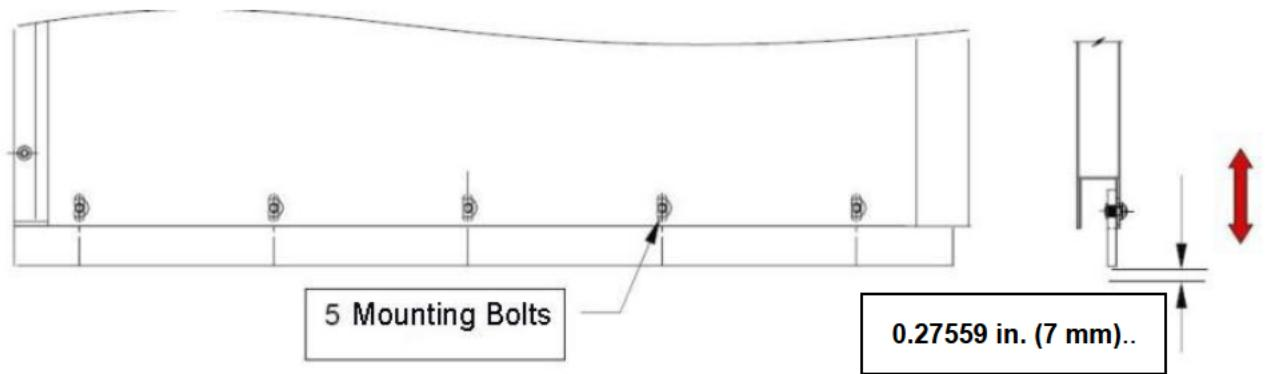

Figure 5 - BOTTOM GUIDE GAP ADJUSTMENT
3. Bottom Guide Gap Adjustment (refer to Figure 5):